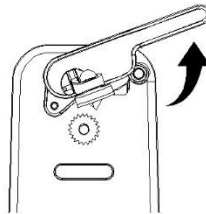
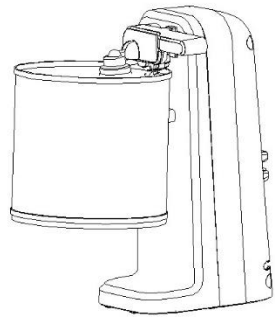

Fig.2
Fig.3
3. Lift the lever (Fig.2) and position the can so that the lower edge of the can lip rests on top of the drive wheel and the cutting blade is on the inside of the can lip as shown in Fig.3.